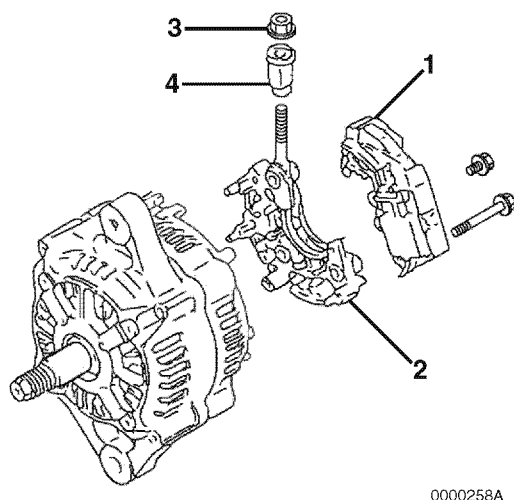

Figure 12-7
4. Remove the bolt retaining the regulator assembly (**Figure 12-7, (1)**) to the holder (**Figure 12-7, (2)**).
5. Remove the bolts retaining the holder (**Figure 12-7, (2)**) to the rear frame housing. Remove the holder.
6. Remove the nut (**Figure 12-7, (3)**) retaining the insulation bushing (**Figure 12-7, (4)**). Remove the insulation bushing.